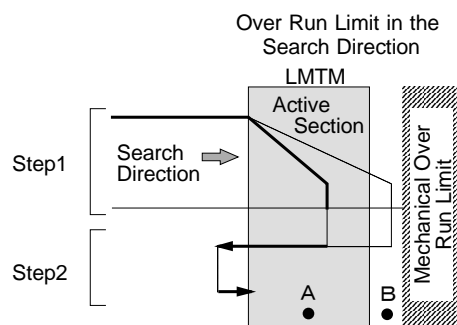

Fig. 2.5-16 Operation of Example 2 Automatic Home Search
- The automatic home search position is not beyond the limit signal active section in the search direction (B in Fig. 2.5-16).